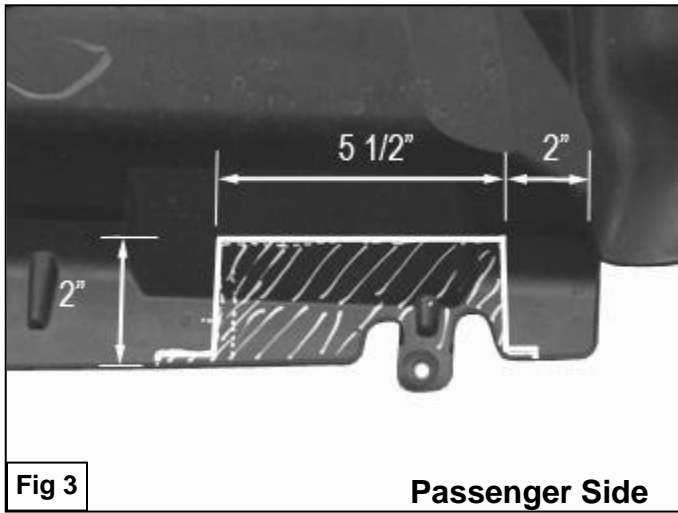

Fig 3
4. Trim the splash shields as shown in **Figure 3 & 4**.